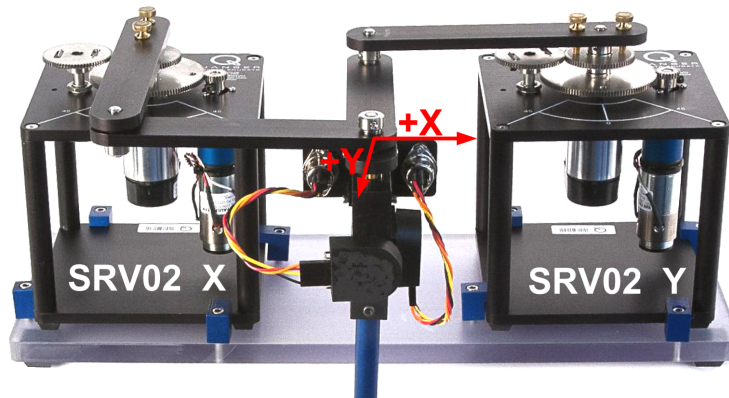

Figure 4.2: 2 DOF Joint attached to end-effector
2. Attach the 2 DOF Joint underneath the end-effector. Shown in Figure 4.2
4. Verify that the setup is as shown in Figure 4.2, above. In particular, ensure that when SRV02 X rotates, the 2 DOF Joint moves in the x-direction and similarly for the y-axis subsystem.